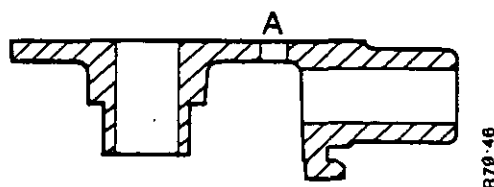

FIGURE 52 BREATHER HOLE POSITION
- NOTE: On turbocharged engines there must be a hole in the breather body as shown in Figure 52.